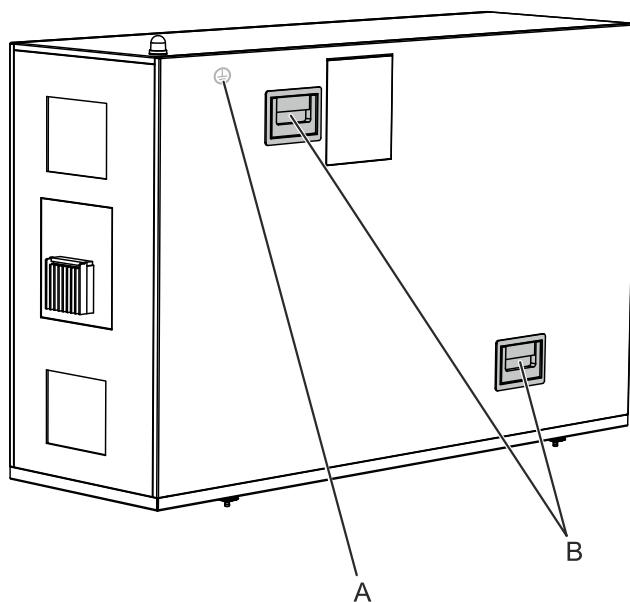

Figure 4: Service panel grounding cable connection and handles
5. Using the two collapsible handles (see Figure 4, B), tilt the service panel away from the top of the laser device. Take into account that a grounding cable (A) is attached to the inside of the service panel.
6. If necessary, use the 7 mm wrench to unscrew the service panel grounding cable. The approximate location of the grounding cable connection is indicated in Figure 4, A.